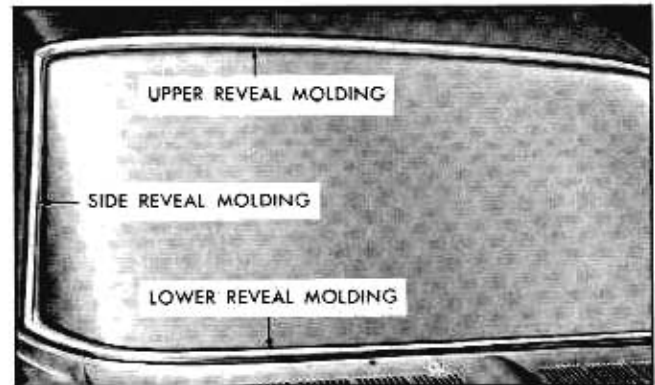

Fig 10A-14 Windshield Reveal Moldings
7. Using a pressure type applicator, seal inner and outer lips of rubber channel to glass with an approved weatherstrip adhesive No. 2 (Fig. 10A-13).
The windshield reveal moldings are secured in a cavity of the windshield rubber channel. The moldings consist of an upper and lower reveal molding and a right and left side reveal molding. The ends of the side reveal moldings overlap the upper and lower reveal moldings (Fig. 10A-14).